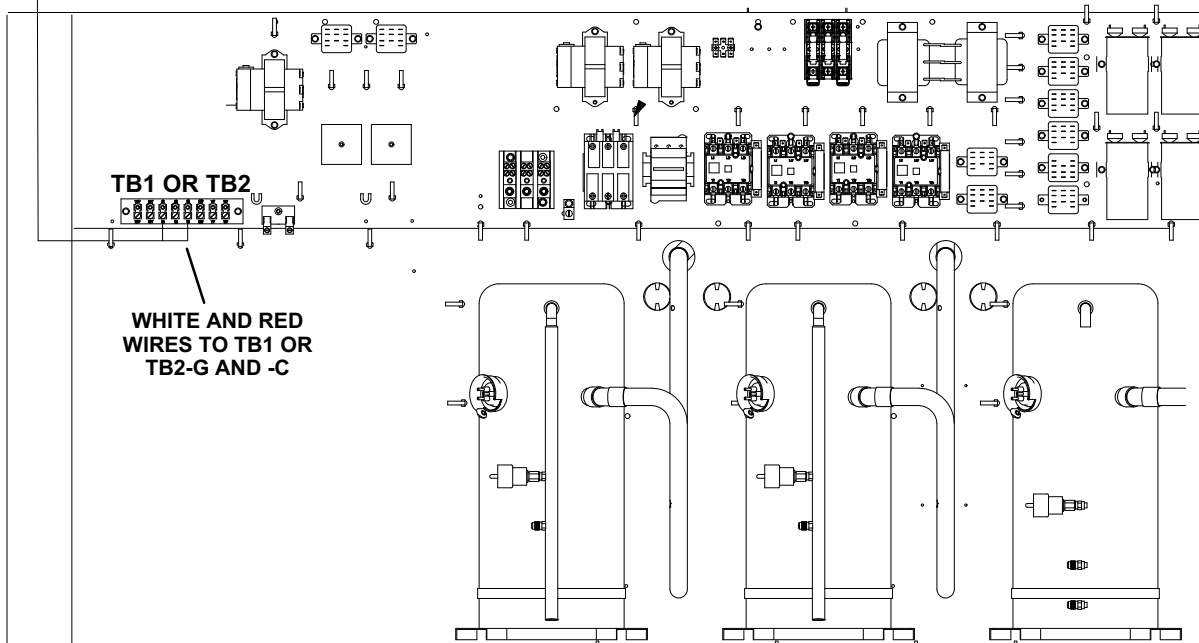

FIGURE 14
- 3- Strip and connect the cut wires to TB1 terminals G and C. See figure 14.